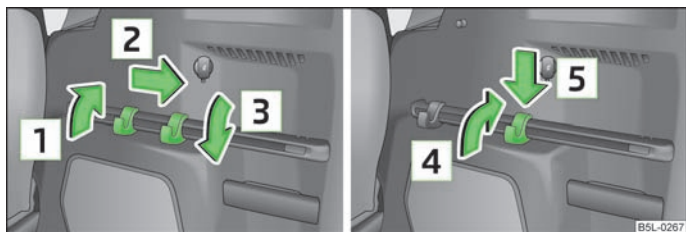

Fig. 56
A fastening strip is located on both sides of the luggage compartment with two moveable hooks each, in order to attach small items of luggage, such as bags etc. » Fig. 56.
- Fold up the hook in direction of arrow  » Fig. 56 until an angle of approx. 45° is reached.
- Fold up the hooks on the fastening strip in direction of arrow **[1]** » Fig. 56.